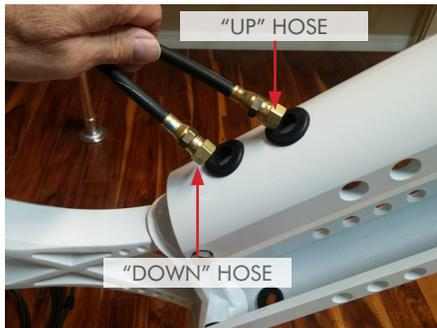

Figure 5
**STEP 2** Route the UP Hose through the Top Hole in the new U-Channel and the DOWN Hose through the Bottom Hole in the new U-Channel. **FIG 5**